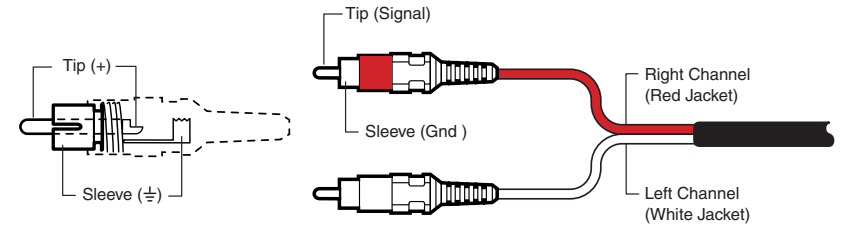

Figure 2-10 — RCA connector wiring
- ⑦ **RCA audio connectors** — Connect unbalanced stereo audio inputs to these RCA connectors. See figure 2-10 for an illustration on how to wire the RCA connector.
- ⑨ **RCA audio connectors** — Connect unbalanced stereo audio outputs to these RCA connectors. See figure 2-10 for an illustration on how to wire the RCA connector.